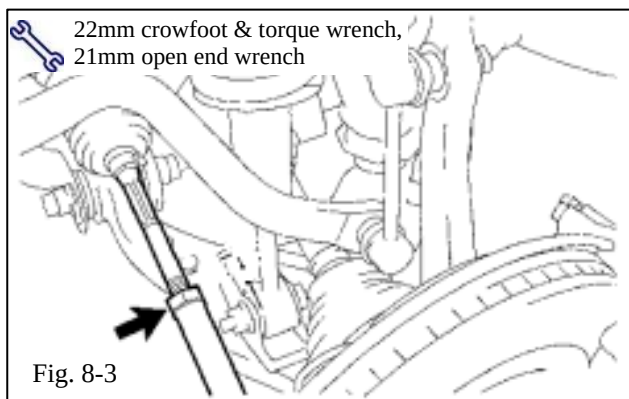

Fig. 8-3
- (b) Use a 22mm crowfoot to torque the locking nut and be sure not to upset the final toe readings (Fig. 8-3).